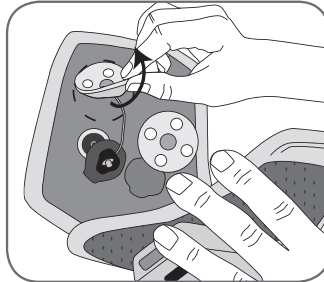

Figure 9-8: Removing the used L300 electrode bases.
3. Remove the used L300 electrode bases from the L300 FS Cuff. See Figure 9-8.